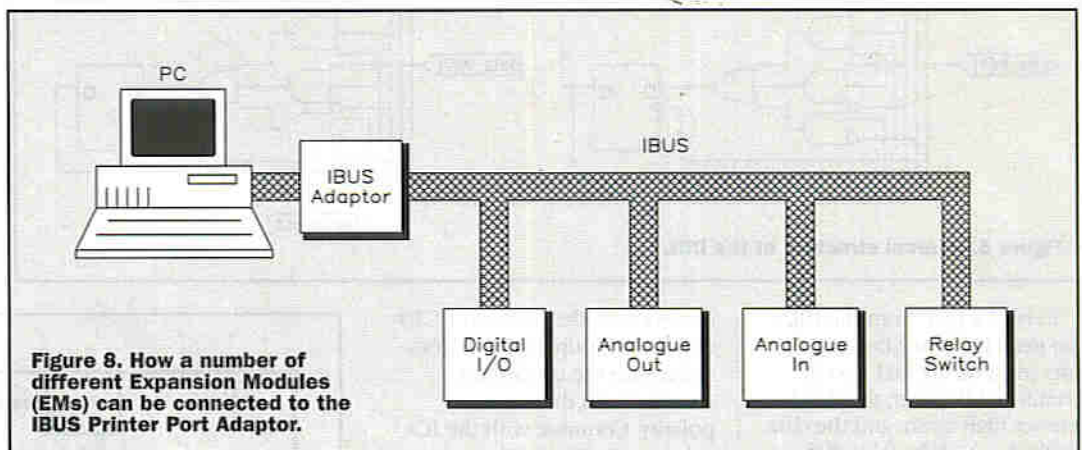

Figure 8. How a number of different Expansion Modules (EMs) can be connected to the IBUS Printer Port Adaptor.
You are now the proud owner of an 8-bit expansion bus for your PC. What next? Expansion, of course! The IBUS has been designed so that the process and cost of designing Expansion Modules (EM) should be quite straightforward and low cost. Figure 8 shows how a number of different EMs can be connected to the IBUS Printer Port Adaptor.